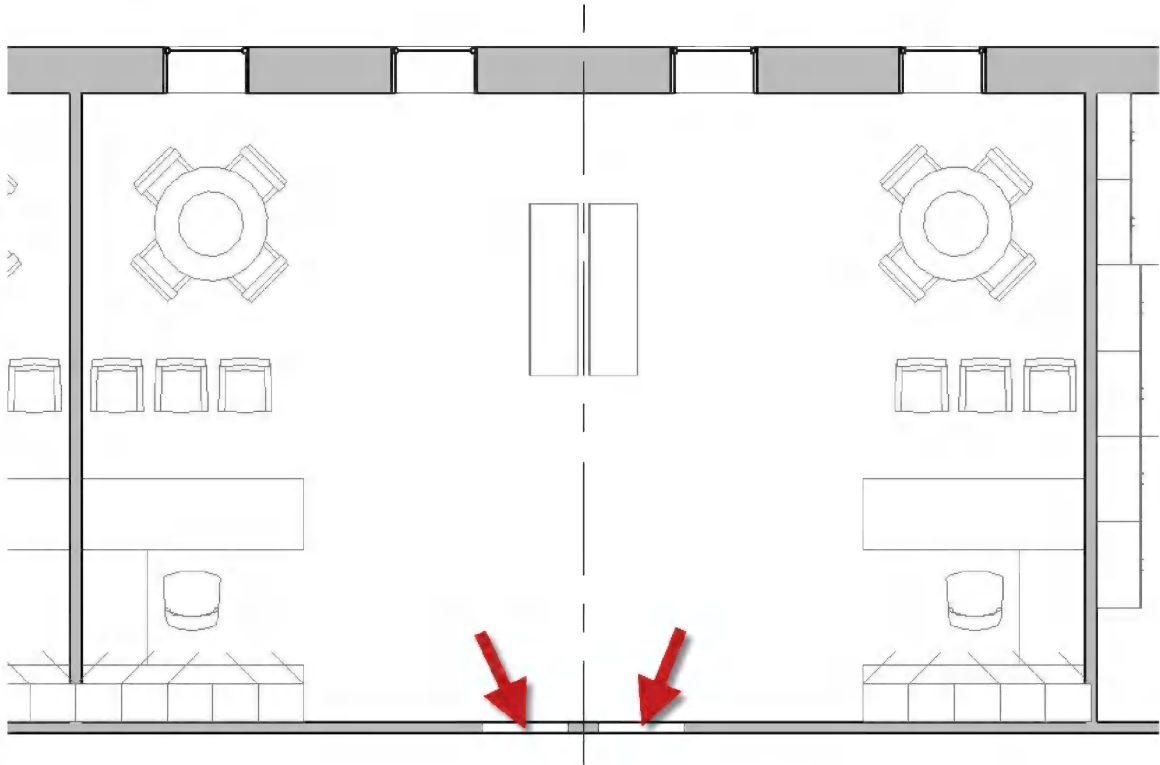

FIGURE 16-3.10 Level 1 – New floor plan view – wall and two doors hidden
20. Switch to **Level 1 – New** floor plan view (Figure 16-3.10).
21. Select one of the infill walls pointed out in Figure 16-3.10.